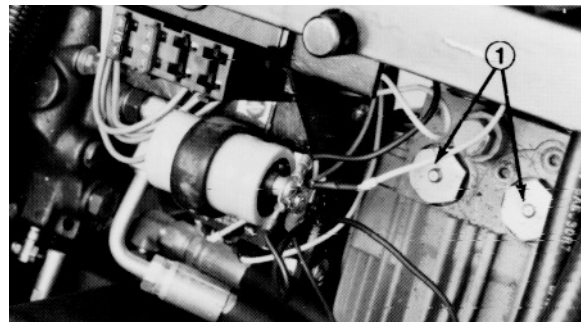

Figure 14
2. Depress and hold the pins located in the center of the two (2) check valve assemblies in the top of the transmission (Fig. 14) while pushing or towing the machine.
Apply a liberal coating of grease to the check valve pins once each year (Fig. 14). The traction unit has bearings and bushings that must be lubricated, and these lubrication points are shown in the following figures.